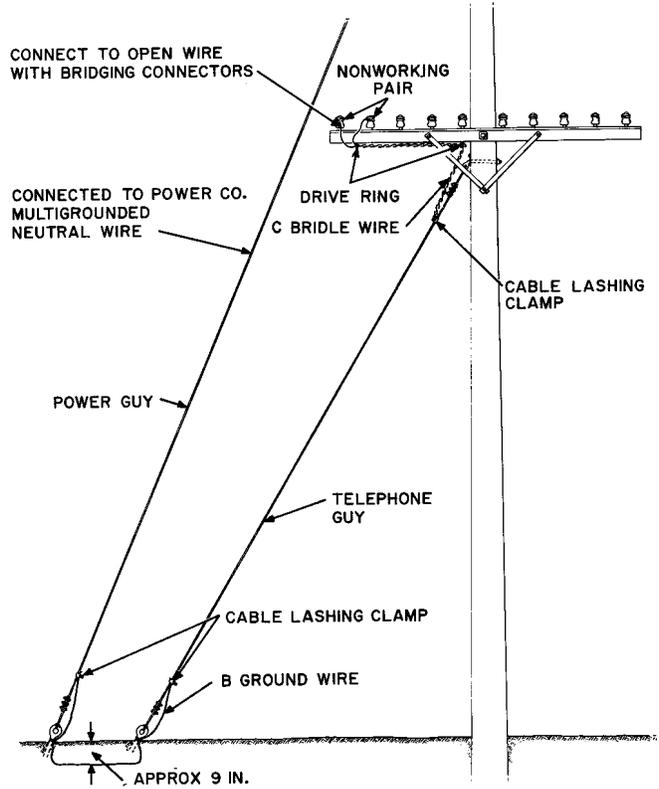

Fig. 3—Method of Grounding Open Wire at Guy
- (1) Telephone anchor guys that are electrically connected to power company guys which are in turn electrically connected to a multigrounded neutral wire (Fig. 3).
- (2) Telephone anchor guys that are electrically connected to a power company vertical ground wire which is in turn connected to a multigrounded neutral wire.
- (3) Telephone anchor guys on the same anchor rod as power company guys which are connected to a multigrounded neutral wire.